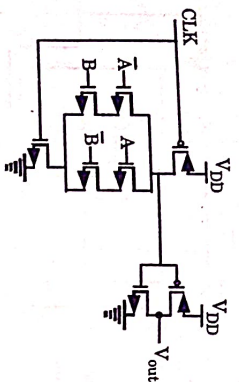

Fig. 3.12.1.
- C. 2 input EXOR logic gate using domino logic gate:** The 2 input EXOR logic gate is shown in Fig. 3.12.1.